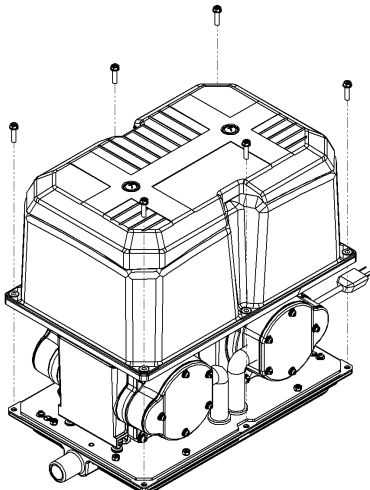

Figure 2
- Loosen the six screws around the aluminum upper housing, and take the housing off. (As shown in figure 2)